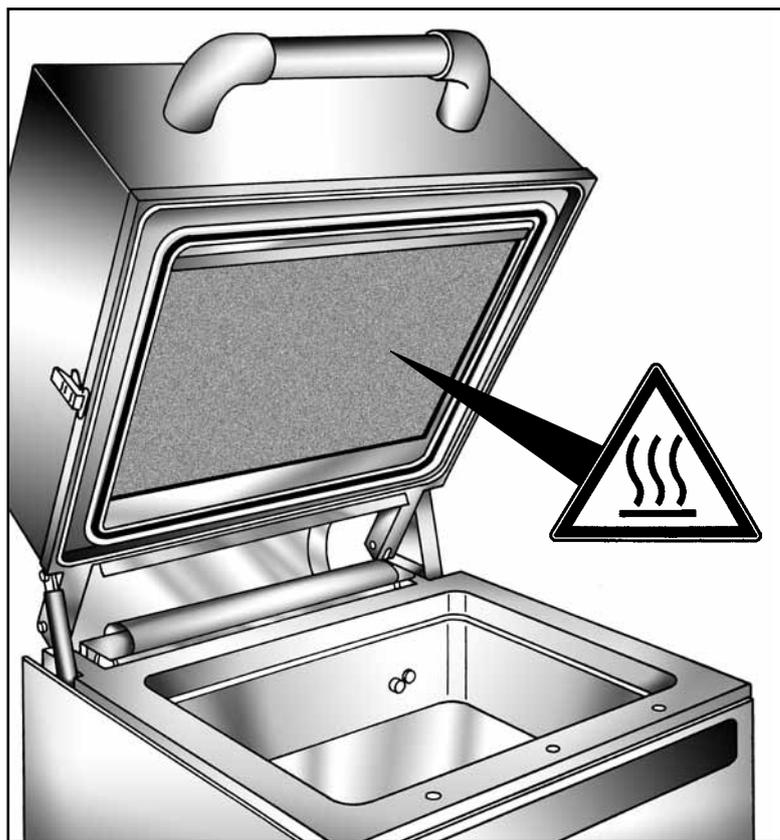

Fig. 1
- 2) Adjust plate temperature between 70 and 80°C (**Fig. 1**).